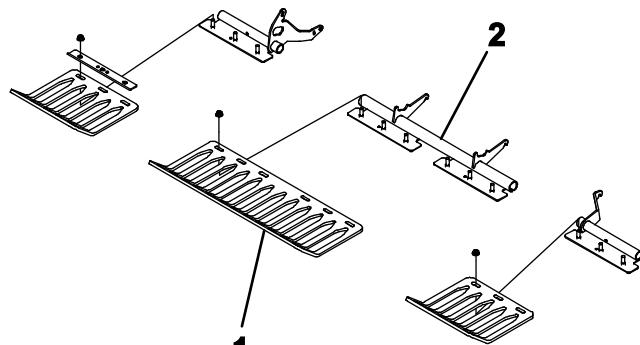

**Figure 22**
2. Mount a tine holder to each tine arm with 3 bolts (1/2 x 1-1/4 inches) (Figure 22). Torque the bolts to 75 ft-lb (101.6 N·m).